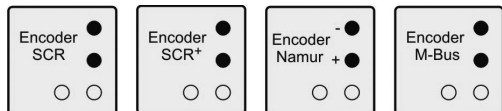

Figure 10: Encoder sticker
- Use only a screened cable (DIN EN 60079-14) to connect the encoder and ensure that the pin assignment is correct (see sticker next to the cover of the terminal box), Figure 10.